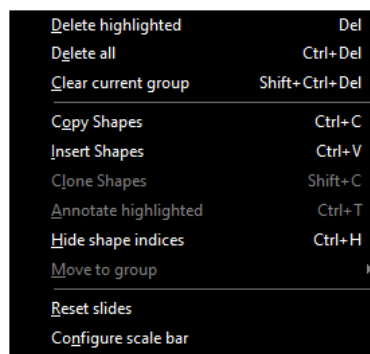

Figure 5.27: Context menu, open with the right mouse button in the image panel.
- Using the context menu (Fig. 5.27)
To delete all shapes, or all shapes from the current group, use the context menu (Fig. 5.27) or use the corresponding keyboard shortcuts *Ctrl + Del* and *Ctrl + Shift + Del*.
To start, select the shape you would like to clone and select *Clone...* from the context menu (Fig. 5.27).
Highlighted shapes can be annotated with your comments, by using the *Annotate highlighted* menu in the popup menu Fig. 5.27. A small popup window Fig. 5.29 will allow to enter the text you want to save with the highlighted shapes.
The popup menu shown in Fig. 5.27 or using the shortcut *Ctrl + H* also allows to hide the shape indices. This can be helpful if many shapes exist. In this case hiding indices also accelerates the drawing.
The popup menu shown in Fig. 5.27 also allows to move highlighted shapes into another group. This allows to correct the group assignment in case you forgot to select the correct group before drawing the shapes.
For convenience the popup menu shown in Fig. 5.27 also allows to reset slides. This means
The popup menu shown in Fig. 5.27 also allows to configure the colors and thickness of the scalebar shown in the right lower corner of the image panel.